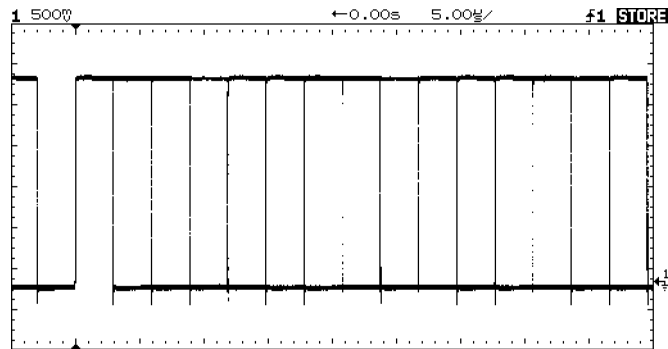
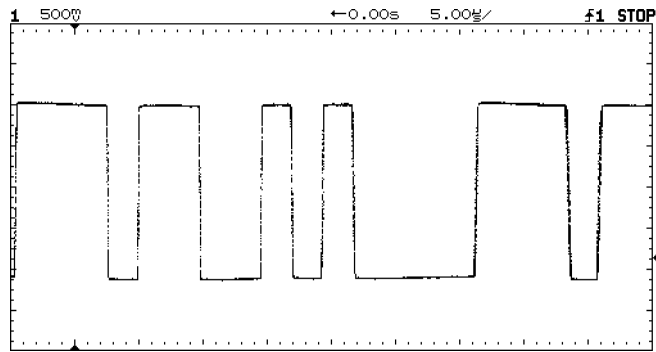

Figure 2-27. Stable trigger, but the waveform is not synchronized with the trigger
Figure 2-28. Holdoff synchronizes the waveform with the trigger
The difficulty in viewing a complex waveform is triggering on the signal. Figure 2-27 shows a complex waveform that is not synchronized with the trigger.
3. Adjust the Holdoff knob to synchronize the trigger of the analyzer with the complex waveform. By setting the Holdoff to synchronize the trigger, the analyzer ignores the trigger that results in Figure 2-27 and waits for the trigger that results in Figure 2-28. Also notice in Figure 2-27 the trigger is stable, but the waveform is not synchronized with the trigger.